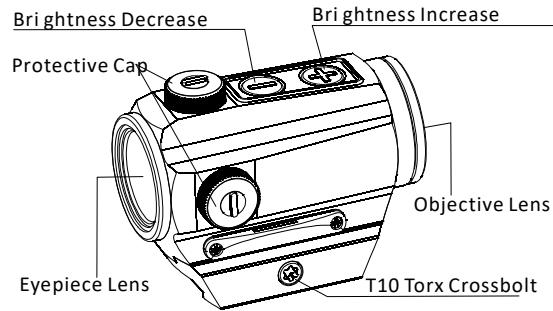

Fig1 PARALOW HS403B Red Dot Sight
3. First open the protective lid (see Fig1), position slot type screwdriver on the slotted screw, then rotate the screw to right or left for adjustment. Each left or right click is for one adjustment, equivalent to 0.5MOA value.